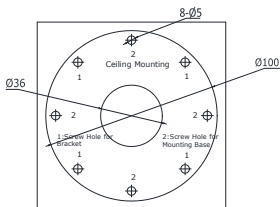

Figure 2-5 Drilling Holes in the Wall/Ceiling
1. Attach the drill template (supplied) to the wall where the camera is to be mounted and drill holes in the wall according to hole 2 on the drill template. See Figure 2-5.